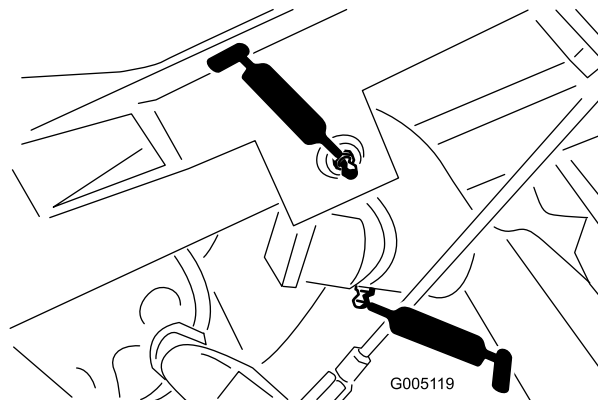

Figure 26
- Lift arm pivot (3) and pivot hinge (3) (Figure 26)